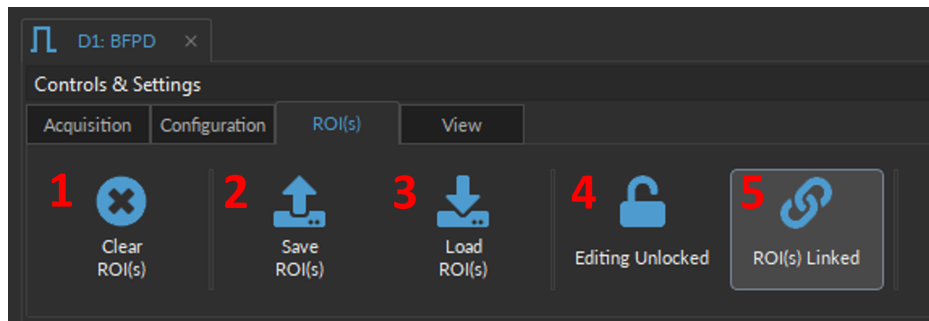

Figure 14.10: ROI(s) Tab
The **ROI(s) Tab** (Fig. 14.10) contains parameters to save, load, clear, or edit bundle fiber photometry ROI(s).
1. The **Clear ROI(s)** button (Fig. 14.10, 1) deletes all drawn regions of interest (ROI) within the **Camera View**. Note that unless the ROI(s) were previously saved, these ROI(s) cannot be recuperated.
2. The **Save ROI(s)** button (Fig. 14.10, 2) saves the region of interests drawn in the **Camera View** in a *.doric* file, so that the identical ROI can be re-imported into the module at a later time. At least one ROI must be drawn for this feature to work.
3. The **Load ROI(s)** button (Fig. 14.10, 3) imports a previously saved *.doric* file. Note that this ROI(s) configuration can be edited, but must be re-saved in order for changes to be conserved.
4. The **Editing Unlocked** button (Fig. 14.10, 4) when enabled prevents new ROI(s) from being drawn, but does not prevent moving or reshaping a selected ROI (see section 14.5.2).
5. The **ROI(s) Linked** button (Fig. 14.10, 5) automatically redraws identical ROI(s) in the other CAM# excitation tabs (Fig. 14.41, 1) within the **Camera View**. **Unlinking** previously linked ROI(s) deletes the ROI(s) from the **Camera View**. Note that it is preferred to uncheck **ROI(s) Linked** between cameras in order to move and resize ROI on each camera window independently to properly select the optical fibers.